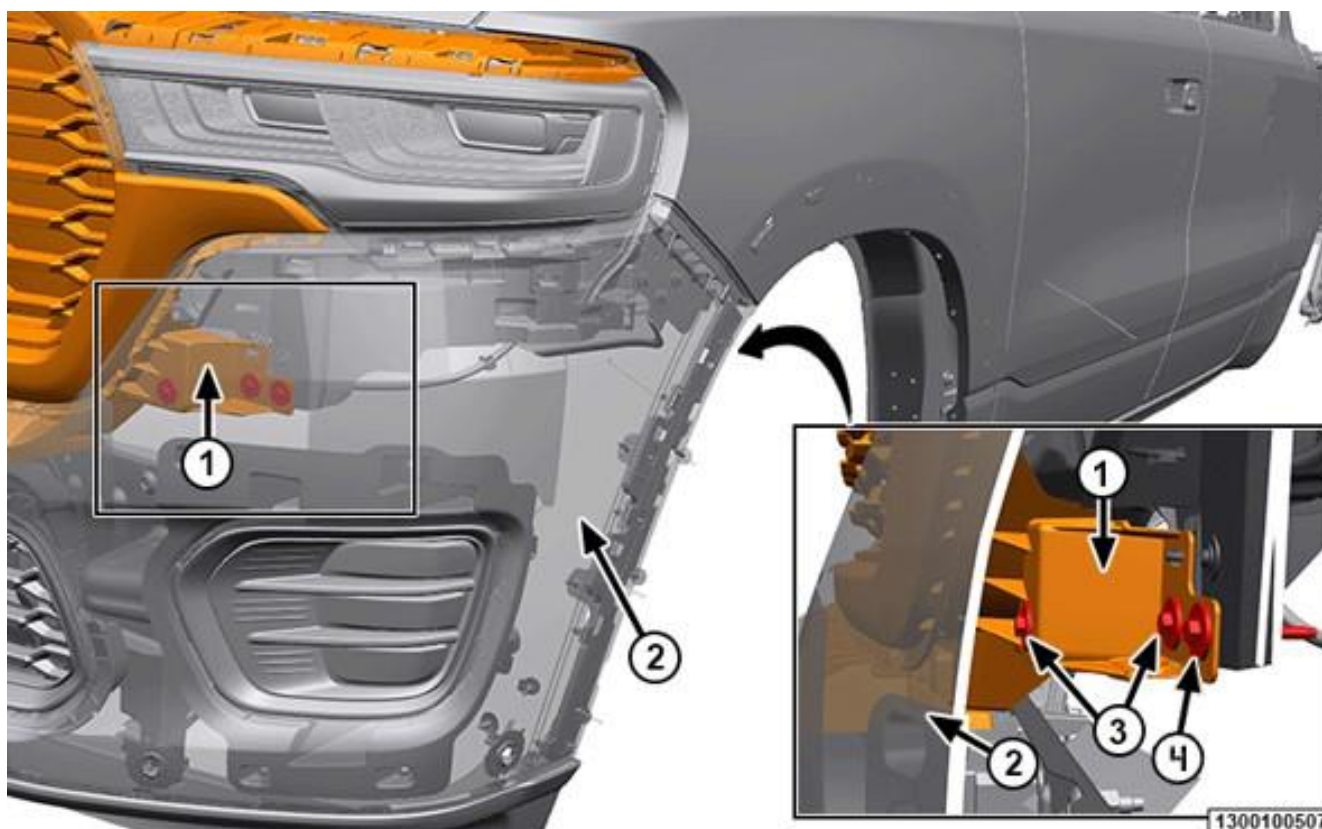

Figure B8 – Lower Grille Carrier
13. Reaching through the wheel well, between the fascia and the grille carrier, remove the lower grille carrier to Front End Module (FEM) bolts. Repeat for the opposite side (Figure B8).
- **DISCARD** the bolts removed from positions (3) on each side (Figure B8).
- Retain the bolts removed from positions (4) on each side (Figure B8).